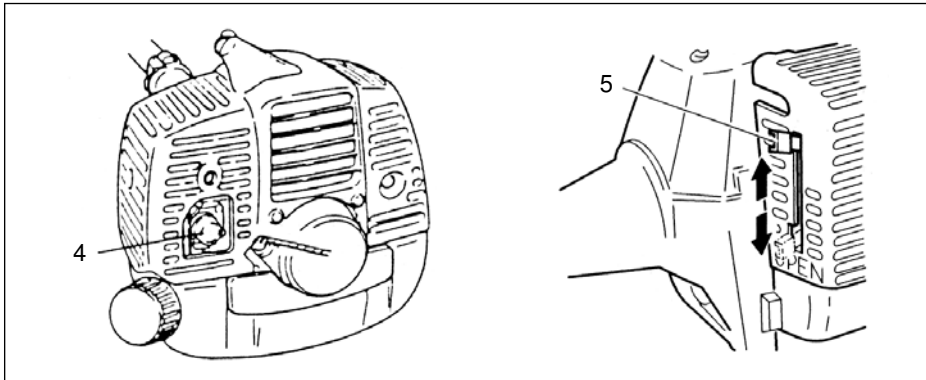

Fig.2-2C
*Push priming bulb (4) several times so that fuel flows through the bulb or return pipe. (If so equipped)(Fig. 2-2C, 3)
2. With the safety trigger (2) pressed (if so equipped), pull throttle trigger and push throttle lock (3), then slowly release the throttle trigger first, then the safety trigger. This will lock the throttle in starting position.
3. Set choke lever to CLOSED position (5).
(Fig. 2-2C, 3)